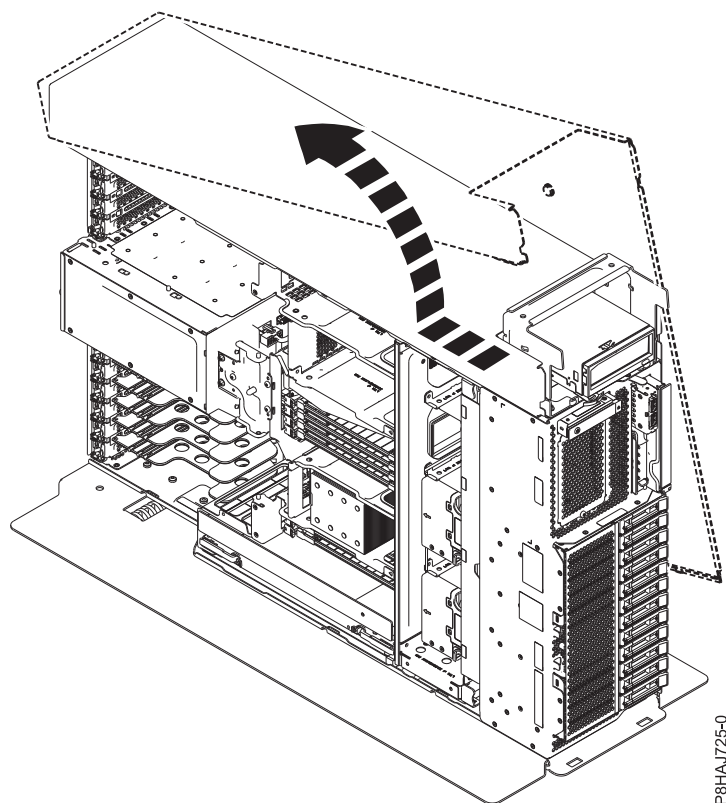

Figure 26. Removing the 8286-41A side cover
5. Slide the side cover off of the system in the direction that is shown in Figure 26 on page 42.